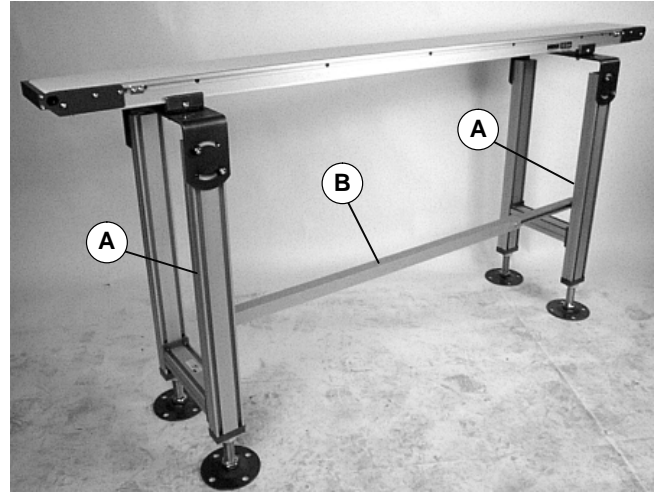

Figure 2
- Stand to stand mounting (Figure 2)